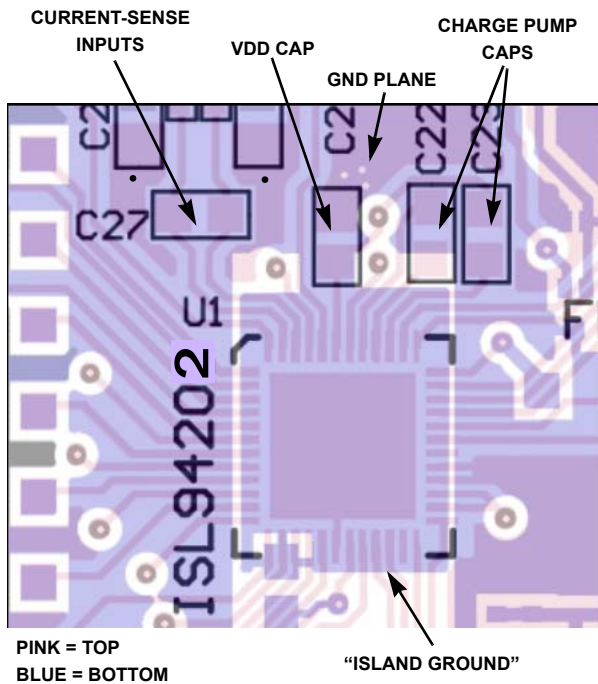

FIGURE 33. EXAMPLE 4-LAYER PCB LAYOUT FOR VDD BYPASS, CHARGE PUMP AND CURRENT SENSE
- An example PCB layout is shown in Figure 33. This figure shows placement of the VDD bypass capacitor close to the VDD pin and with a good ground connection. The charge pump capacitors are also close to the IC. The current-sense lines are shielded by ground plane as much as possible. The ground plane under the IC is shown as an “island”. The intent of this layout was to minimize voltages induced by EMI on the ground plane in the vicinity of the IC. This example assumes a 4-layer board with most signals on the inner layers.